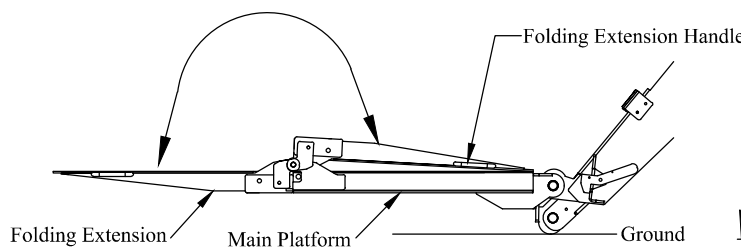

Figure 26: Steps 9 and 13.
9. **Stand off** to the side and unfold the platform folding extension (Figure 26).
13. **To close** the platform, stand to the side of the platform, not under or behind the platform. With the liftgate lowered, close and lock the platform cart stops, if so equipped, then fold the folding extension by lifting on the handle (Figure 26).